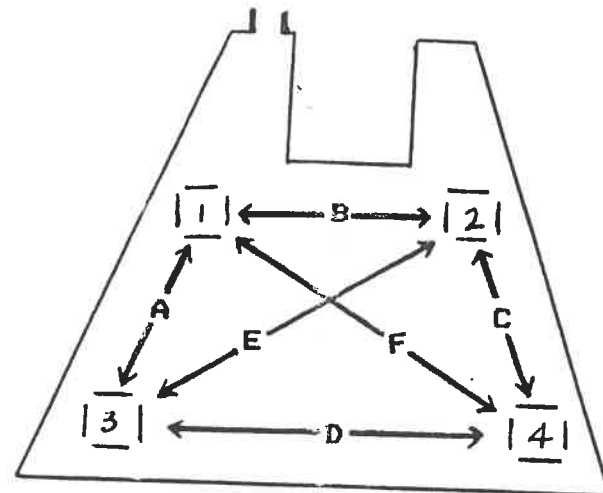

FIG. 3
2. Gently peel up the actuation pad (See FIG. 3) from the sensing area(s) determined to be too sensitive and move it slightly off center. The more CENTERED an actuation pad is on its sensing area, and the SMALLER the diameter of the pad, the more SENSITIVE is that switch. Using a larger diameter Actuation pad will also desensitize the switch.